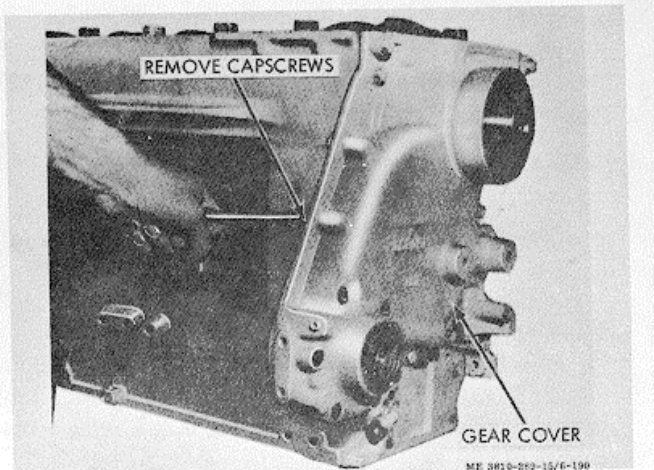

Figure 3-182. Gear cover removal and installation.
(1) Remove accessory drive pulley (para 3-23).
(2) Remove vibration damper and crankshaft hub (para 3-38).
(3) Remove all capscrews and lockwashers securing cover to block (including two capscrews behind mounting plate) (fig. 3-182).
(4) Lift gear cover from engine.
(5) Remove and discard gasket.
(2) Secure gear cover to mounting plate and block with lockwashers and capscrews, figure 3-182. Tighten to 30/35 ft.-lbs torque.